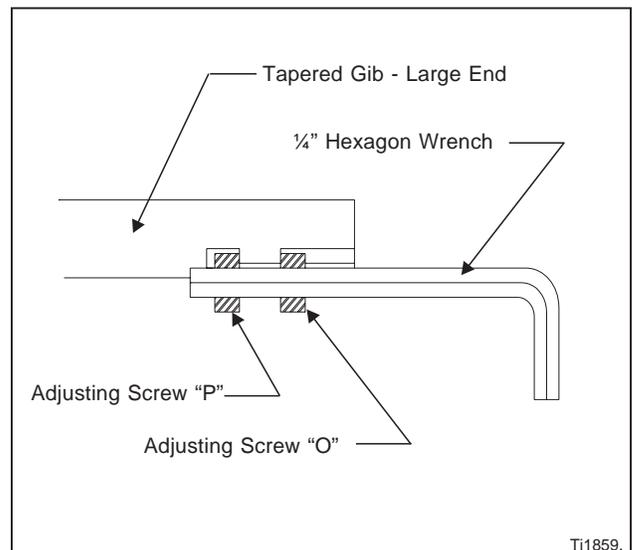

Figure 1.35 - Gib Adjustment Illustration
3. Push the wrench through adjusting nut "O" and into adjusting nut "P", Figure 1.35 .